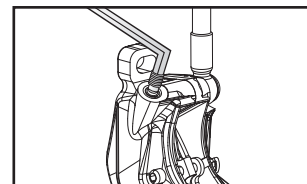

Fig 8c
- Using a T15 Torx, remove the caliper bleed port screw. (Fig 8c)